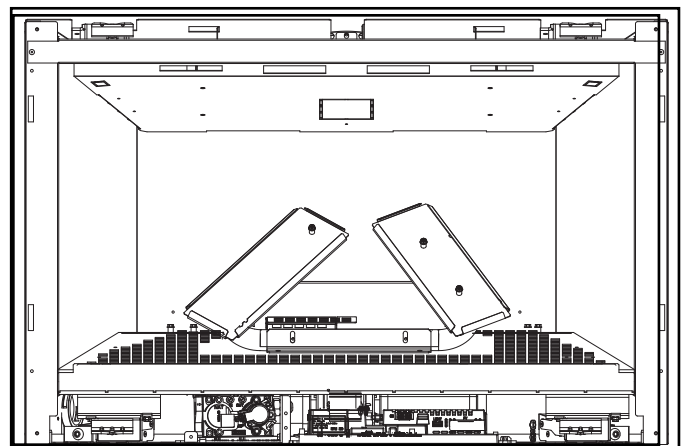

Figure 3.5 Control Cavity
- Access to the control cavity (Figure 3.5) will require the decorative barrier front, glass panel and the glass seal plate to be removed.